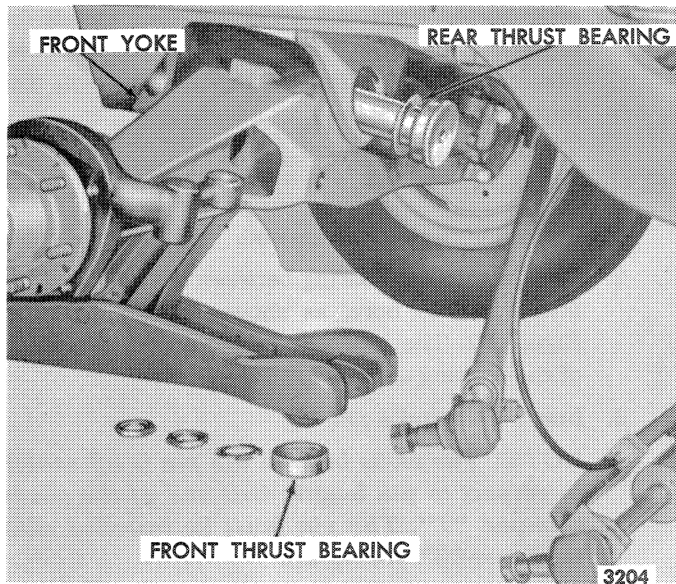
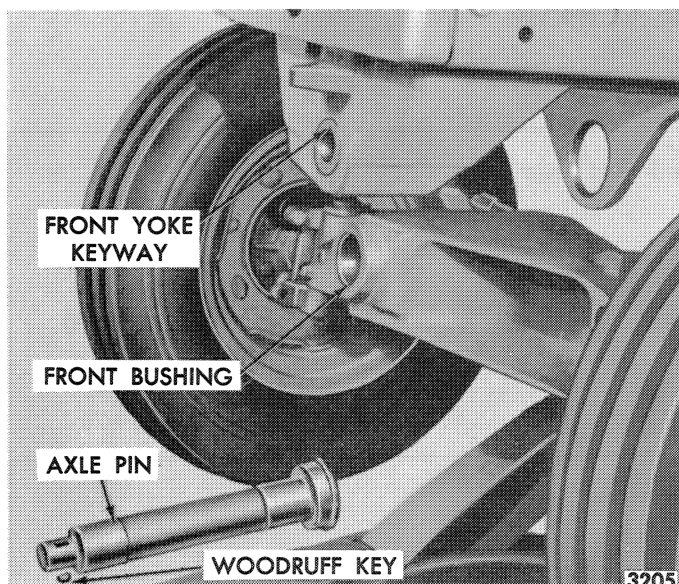

Figure 29—Removing Axle Pin
Figure 30—Removing Front Axle
the support, remove the axle pin front thrust bearing, Figure 29.
NOTE: *The left front wheel has been removed in Figure 29 for illustration purposes only.*
13. Raise the front of the tractor to clear the axle as shown in Figure 30, and pull the axle assembly forward with the floor jack.
Axle bushing wear can be detected before the axle is removed from the tractor. It is good practice to check the axle for excessive play when servicing the front end. There are two bushings in the axle pin bore on the front axle; the front bushing, shown in Figure 30, and the rear bushing, located at the rear of the bore. Both bushings have the same diameter,
3. Slip the rear thrust bearing on the axle pin, Figure 29, and insert the Woodruff key, Figure 30, in the recess at the rear of the keyway.